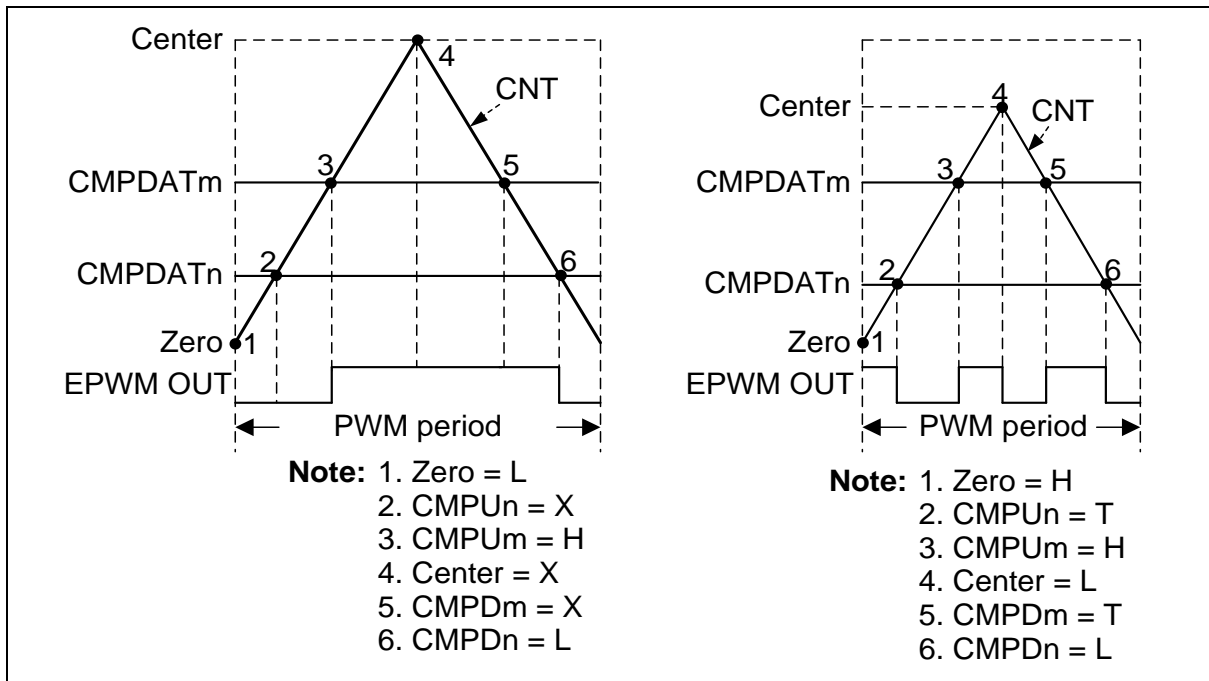

Figure 6.14-18 EPWM Pulse Generation
Each event point can decide EPWM waveform to do nothing (X), set Low (L), set High (H) or toggle (T) by setting the EPWM_WGCTL0 and EPWM_WGCTL1 registers. Using these points can easily generate asymmetric EPWM pulse or variant waveform as shown in Figure 6.14-18. In the figure, EPWM is in complementary mode, there are two comparators n and m to generate EPWM pulse. n denotes even channel number 0, 2, or 4, and m denotes odd channel number 1, 3, or 5. n channel and m channel are complementary paired. Complementary mode uses two channels (CH0 and CH1, CH2 and CH3, or CH4 and CH5) as a pair of EPWM outputs to generate complement paired waveforms. CMPU denotes CNT(EPWM_CNTn[15:0]) is equal to CMP(EPWM_CMPDATn[15:0]) when counting up. CMPD denotes CNT bits is equal to CMP bits when counting down.